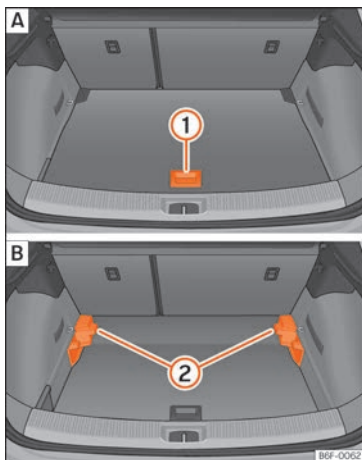

Fig. 110 Variable luggage compartment floor:
- To move from the low position to the high position, lift the floor using the handle » **Fig. 110 ①**, and pull it back until the front of the floor has fully passed the supports **②**.
- Move the floor forward over the supports as far as the rear seat backrest and then lower the floor with the handle **①**.
- To move from the high position to the low position, lift the floor using the handle » **Fig. 110 ①**, and pull it back until the front of the floor has fully passed the supports **②**.
- Now let the front part fall to the floor and slide the floor forwards as far as the rear seat backrest; lower the floor at the same time with the handle **①**.
- Lift the variable floor in the high position using handle » **Fig. 110 ①**, pull it up and push it towards the backrest of the rear seats until it folds along the hinge line and the movable part of the floor is resting on itself.